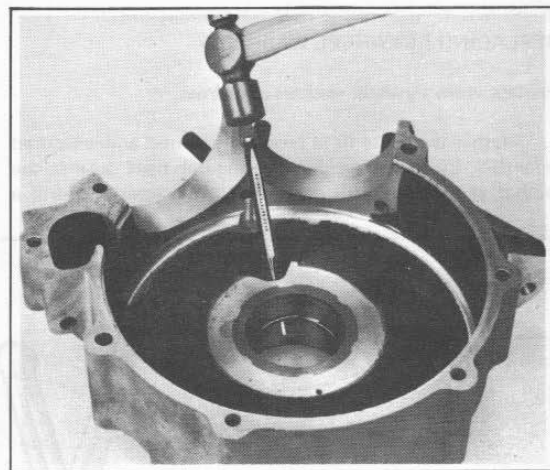

Figure 3-34. Removing Lock Ring
7. If left main bearing is to be replaced, tap out bearing races (11 and 13) from opposite sides of crankcase hole, using a brass drift and hammer. Remove lock ring-spacer (12) using a pin punch or similar tool. Rotate lock ring in groove so that one edge covers oil hole. Insert tool into oil hole with tapered end underneath lock ring. Tap on tool to force one end out of groove as shown in Figure 3-34. Starting at this free end, push ring out of bearing bore.